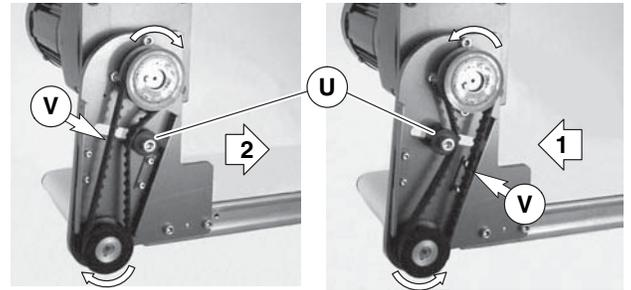

Figure 12
- Depending on direction of conveyor belt travel (1 or 2 of Figure 12), position belt tensioner (U) as shown. Tension belt to obtain 0.125" (3 mm) deflection for 1.0 lb (456 grams) of force at belt mid-point (V). Tighten tensioner screw to 103 in-lb (12 N-m).
- Depending on conveyor belt travel (direction 1 or 2), locate timing belt tensioner (Figure 12, item U) as shown. Tension timing belt to obtain 0.125" (3 mm) deflection for 1.0 lb (456 grams) of force at timing belt mid-point (V). Tighten tensioner screw to 103 in-lb (12 N-m).